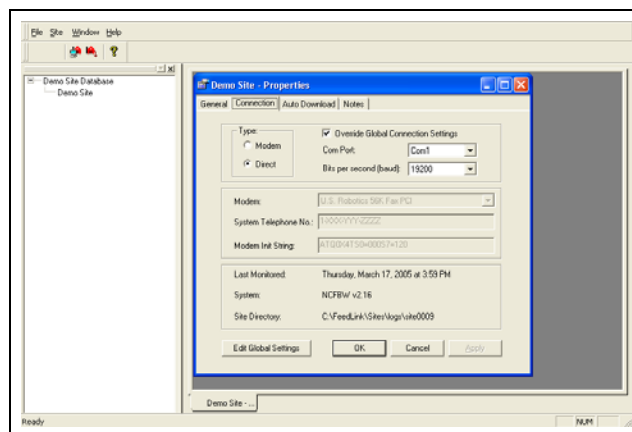

Figure 11F Connection Settings Tab
7. In setting up a site, the connection folder is very important. Once viewing properties, select the connection tab and fill-in the appropriate information. There are two (2) ways to communicate with a network collector: by modem or direct connection. (See Figure 11F on Page 42.) Select "Edit Global Settings" at the bottom of the connections tab screen. These settings will be used for all direct connection or modem connections, unless overridden.